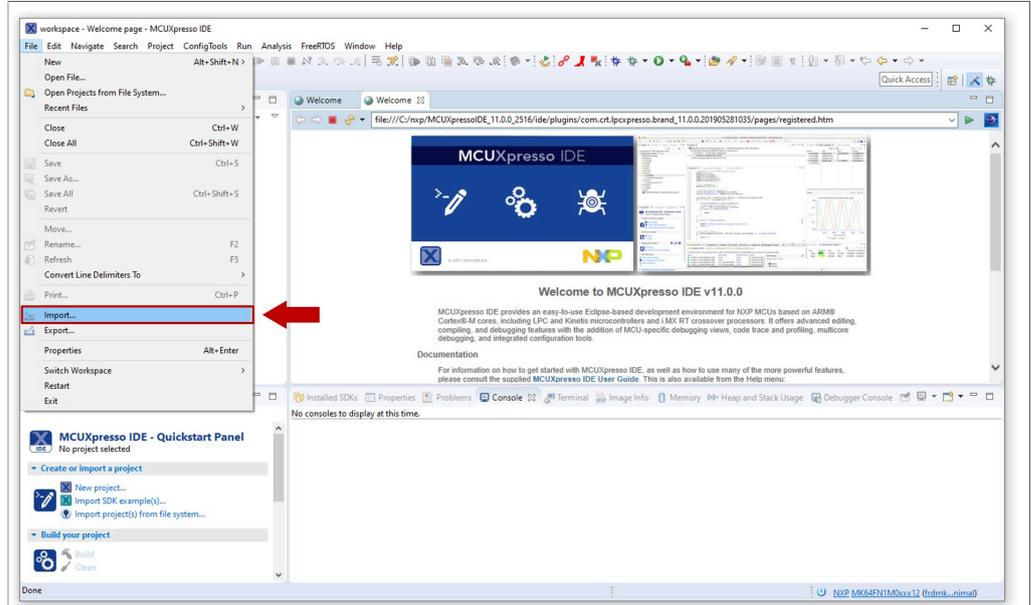

Figure 34. Import a project wizard
1. Go to *File* → *Import* using the top bar menu as shown in Figure 34.